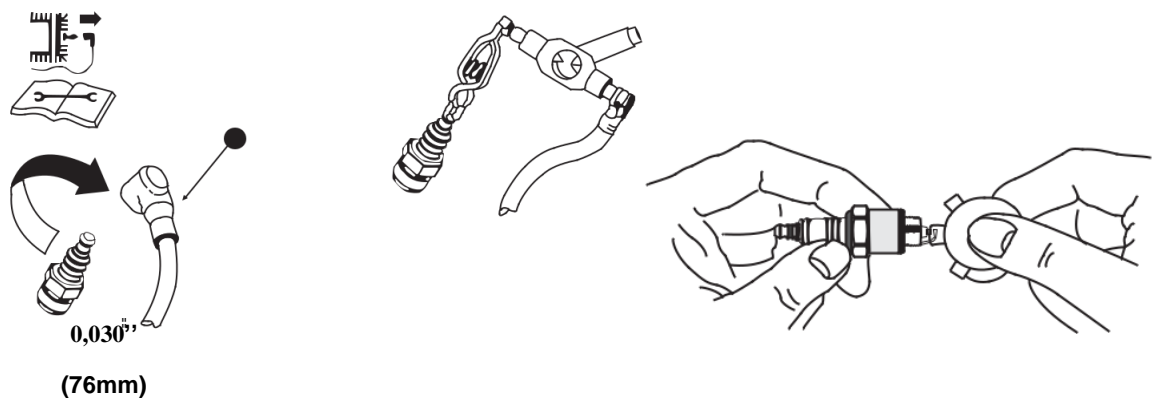

Figure 16
6.6. Sparking Plug Replacement or Maintenance: Replace or clean the spark plug after every 100 operating hours. Adjust the spark plug gap to 0.76 mm with a feeler (Figure 16). Do not destroy the clean spark plug. Clean the spark plug by scraping or with a wire brush.